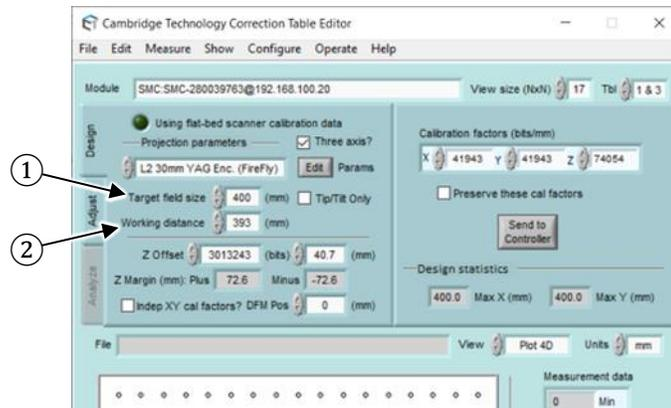

Figure 22: Example: Setting the Working distance
As an example, we will configure the *Working distance* to 594 mm as shown in Figure 22 on page 65, point (2). This will allow us to attain a maximum theoretical *Target field* size of 588 mm, as shown in the figure, point (1), below.